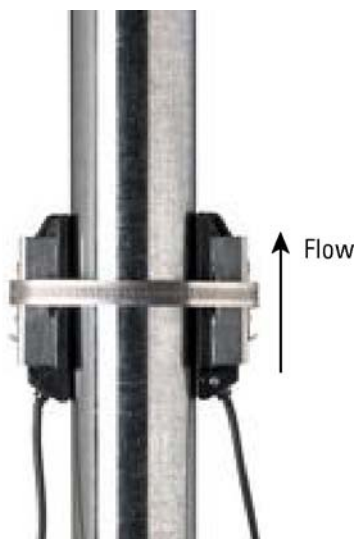

Figure 2-6.
- 4. Mount the transducers, ensuring the transducers face the same direction (as shown in Figure 2-6):